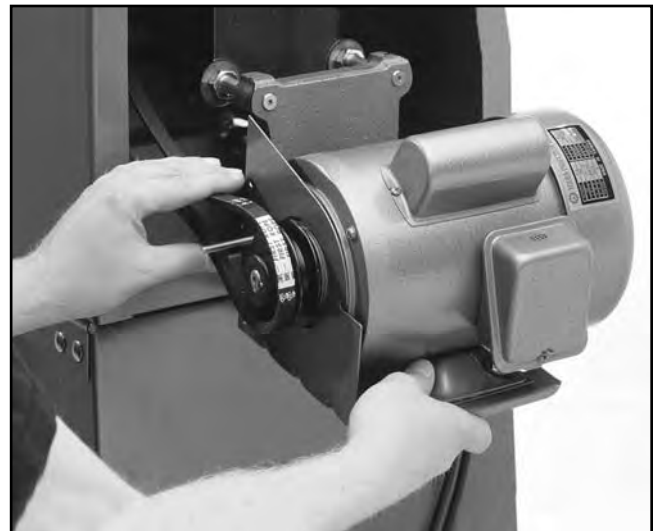

Figure 18. Attaching the V-belt to the motor.
6. Lift the motor up and slip the V-belt over the grooves in the pulleys. Slowly release the motor, allowing its weight to add tension to the V-Belt as shown in **Figure 18**.